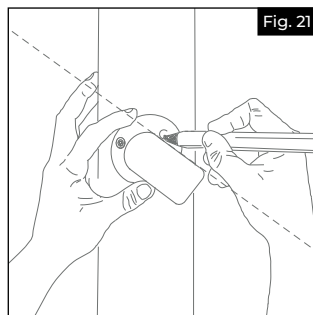

Fig. 21
- a. Align the post return according to the Handrail layout line and mark attachment hole positions (Fig. 21).